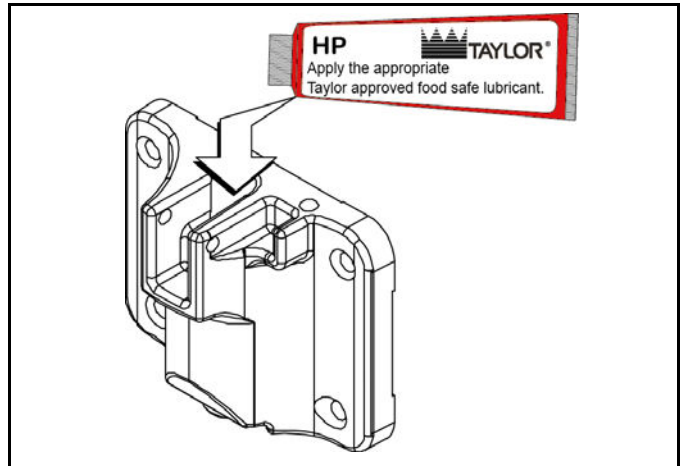

Figure 6-27
11. Lightly lubricate inside the top of the freezer door valve cavity. (See Figure 6-27.)